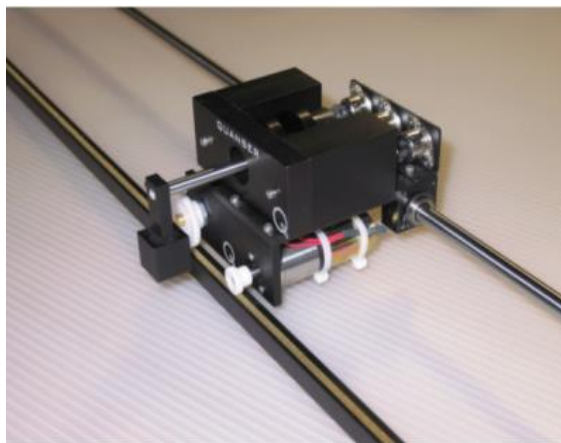

Fig. 1 – The IP02 Servo Plant
- **Linear Motion Servo Plant:** Quanser IP02, as shown in *Fig. 1* below.